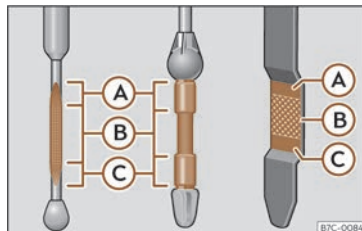

Fig. 214 Engine oil dipstick.
- Then pull it out once more and check the oil level >>> Fig. 214. Top up with engine oil if necessary.
- When the oil level reaches at least zone >>> **Fig. 214 (B)**, unscrew the engine oil filler cap carefully >>> ⓘ.
If the oil level is above area >>> **Fig. 214 (A)**, do not start the engine. This could result in damage to the engine and catalytic converter. Contact a specialised workshop.
The oil level must never be above zone >>> **Fig. 214 (A)**. Otherwise oil can be drawn in through the crankcase breather and leak into the atmosphere via the exhaust system.